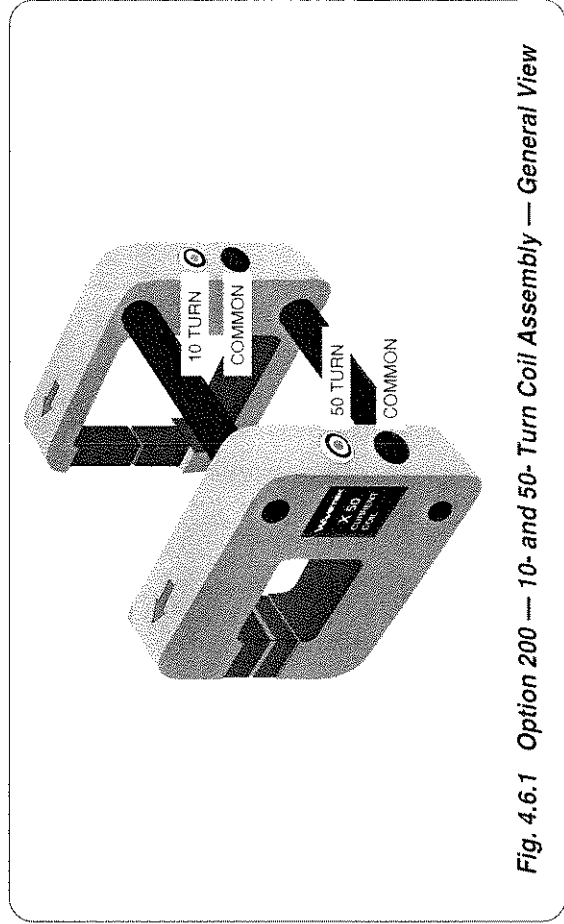

Fig. 4.6.1 Option 200 — 10- and 50-Turn Coil Assembly — General View
4.6.6.3 10- and 50-Turn Current Coils (Option 200) (Fig. 4.6.1)